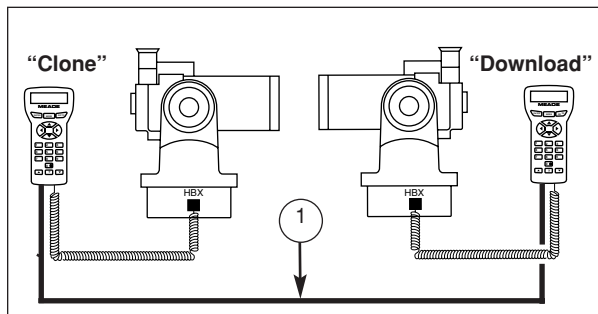

Fig. 2: #505 Connector Cable Set connects between two Autostar handboxes. (1) 3-foot cable.
3. Connect the 3-foot cable (1, Fig. 2) between the RS-232 ports at the base of each Autostar as shown in Fig. 2.